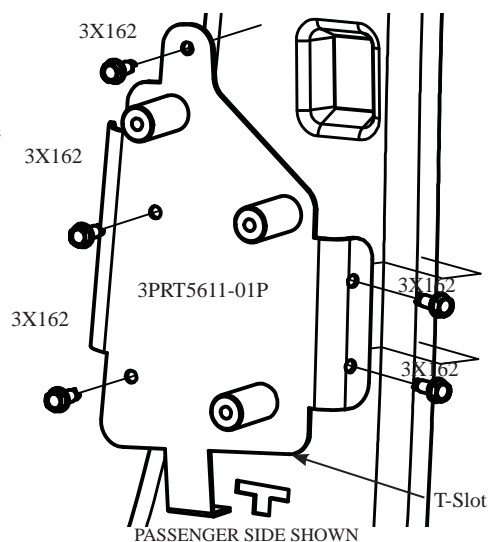

Fig. 8
A. Place the passenger B-pillar bracket (3PRT5611-01P) against the B-pillar face (See Fig. 8).